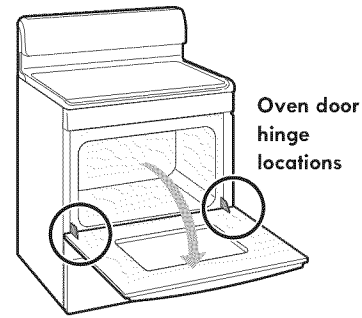

Figure 42: Oven hinge locations
1. Open oven door completely (horizontal with floor - Figure 42).
3. Fully open the oven door (horizontal with floor - Figure 42).